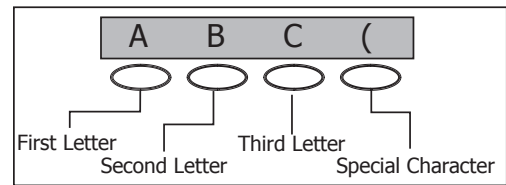

Figure 6: Thinline/Aqualite Select Keys
**On Clear Touch Keypads**, when instructed to press the first Select key, touch Select Area 1; the second Select key touch Select Area 2; third Select key touch Select Area 3; and the fourth Select key touch Select Area 4. See Figure 6.